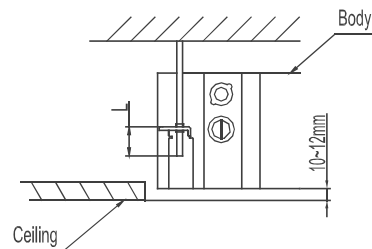

Fig. 5-4
- Adjust the position to ensure the gaps between the body and the four sides of ceiling are even. The body's lower part should sink into the ceiling for 10~12 mm (Refer to Fig.5-4).
- In general, L is half of the screw length of the installation hook.(Refer to Fig.5-4)